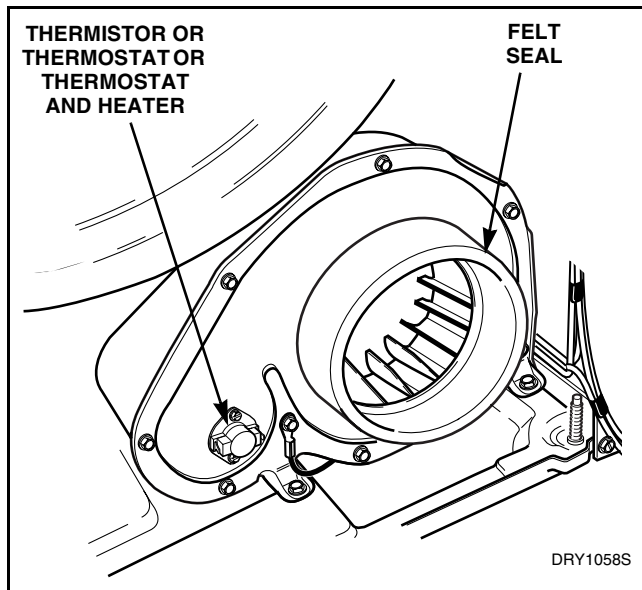

Figure 20
- d. Refer to *Figure 20* for thermistor or thermostat and heater removal.
NOTE: When reassembling, be sure felt seal on exhaust fan cover makes air tight seal on flange of duct. Refer to *Figure 20*.
NOTE: When reassembling, be sure felt seal on exhaust fan cover makes air tight seal on flange of air duct. Refer to *Figure 20*.
- f. Disconnect wires from thermistor, thermostat or thermostat and heater. Refer to *Figure 20*.